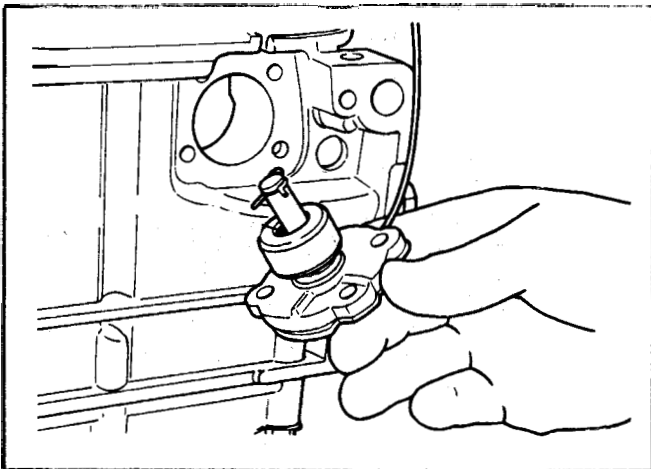

Figure 114
26. Install the oil level sensor in the crankcase of the engine. See Figure 114.